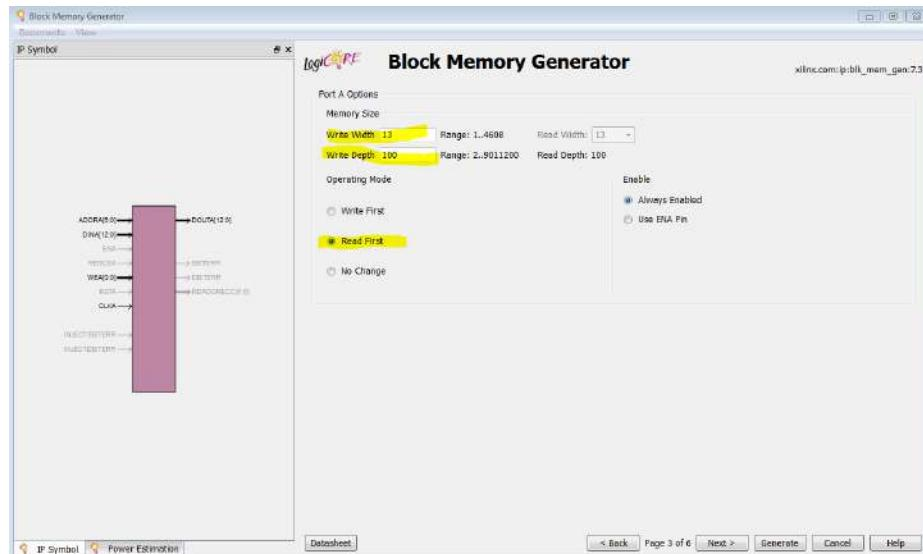

Figure 5-22 Edit port options
- Click Next for the first two pages of the Block Memory Generator, then on page 3 (Port A Options), change the Write Width to 13, the Write Depth to 100, and select Read First, as shown in Figure 5-22. Then click Next.